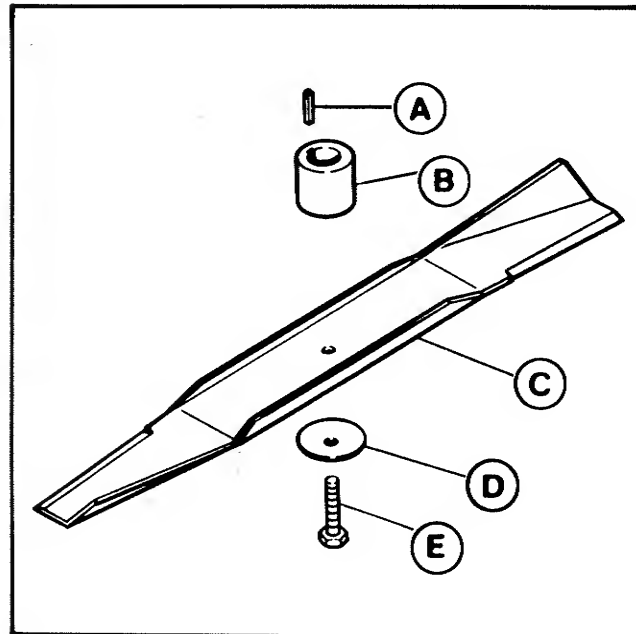

FIGURE 12B - BLADE MOUNTING HARDWARE
9. Install the blade, washer and screw. Install the blade with tabs pointing up. See Figure 12B.